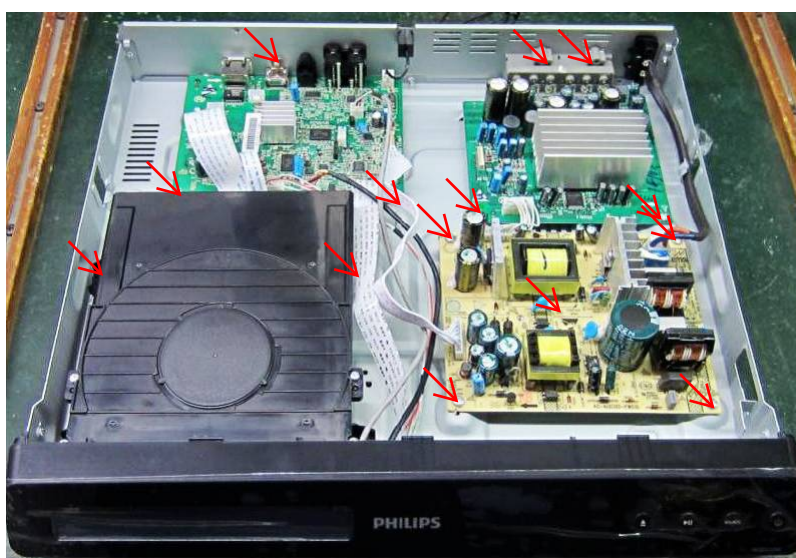

Figure 5
Step5 : Dismantle Loader, disconnect the 3 connectors (XP3, XP2, XP6) aiming in the below figure, and remove 2 screws that connects the loader and the bottom cabinet. (Figure 5)
Step6: Dismantle Main Board, first disconnect 2 connectors (XP1, XP11), and then remove 5 screws. (Figure 5/6)
Step7: Dismantle Power Board, disconnect the connectors XP502 and CN502 on Power Board, then remove 5 screws. (Figure 5/6)
Step8: Dismantle Amplifier Board, remove 4 screws (Figure 5/6)